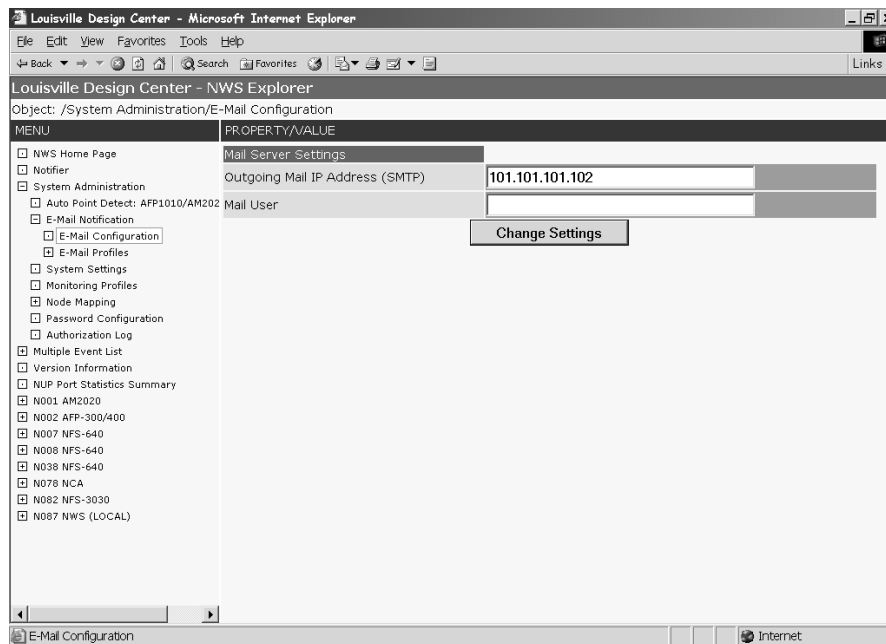

Figure 4.3.2-1: E-mail Configuration
5. Configure custom messages (see Figure 4.3.2-3).